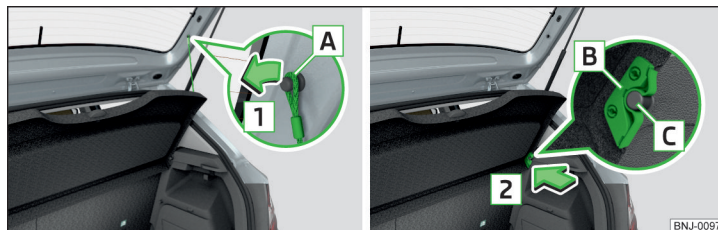

Fig. 100 Remove the luggage compartment cover
If the support straps **A** » Fig. 100 are attached to the boot lid, then opening the lid will raise the boot lid cover (hereafter only referred to as "cover").
- On both sides of the boot lid, unhook the straps **A** in direction of arrow **1** » Fig. 100.
- Position the mounts on the cover **B** onto the side trim panel via pins **C** » Fig. 100.
- The holders [B] on the cover must be resting completely on the pins [C] on the side panel » Fig. 100.
In the front area, slots [B] » Fig. 100 on page 86 on the cover must be fully engaged with the bolts on the side trim. In the back, the cover must be secured at both ends under the latching.